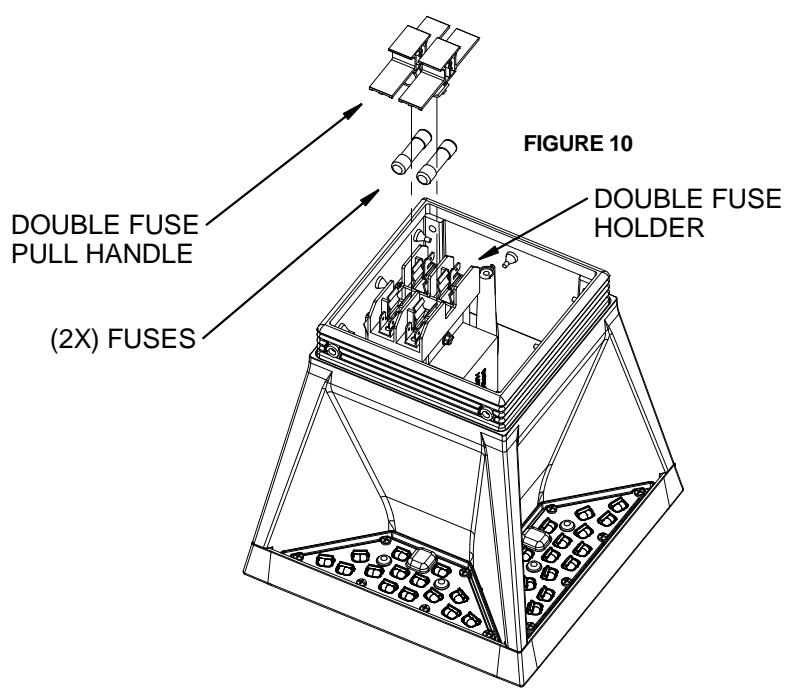

FIGURE 10
- The **double fuse holder** is located underneath the Top Assembly and is hard-mounted on the driver bracket (Fig.10). Pull firmly on the handle that will disconnect both fuses simultaneously. Inspect and replace the fuses as needed with fuses of identical type and rating.